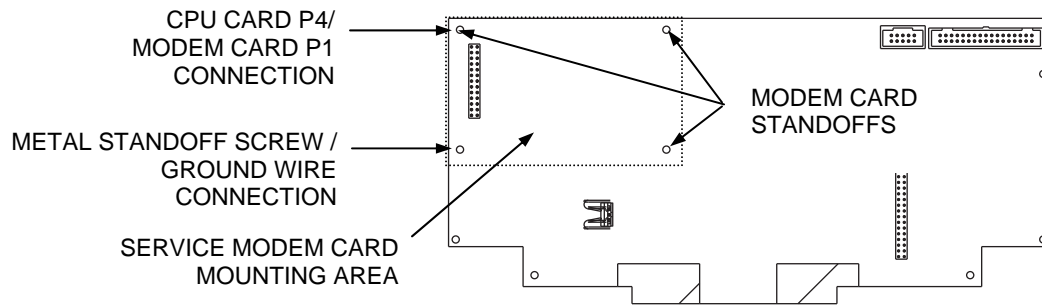

Figure 2. Mounting the Service Modem
2. Secure the modem to the CPU card with the plastic standoffs as shown in Figure 2. At the same time, connect P4 on the CPU card to P1 on the modem.